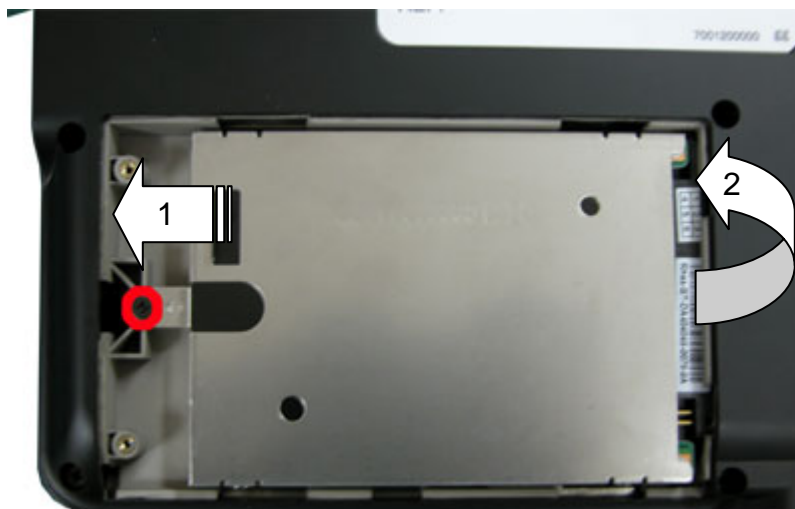

Fig. 3 Disconnecting the hard disk drive
2. Unscrew the HDD module and disconnect it as shown in Fig. 3